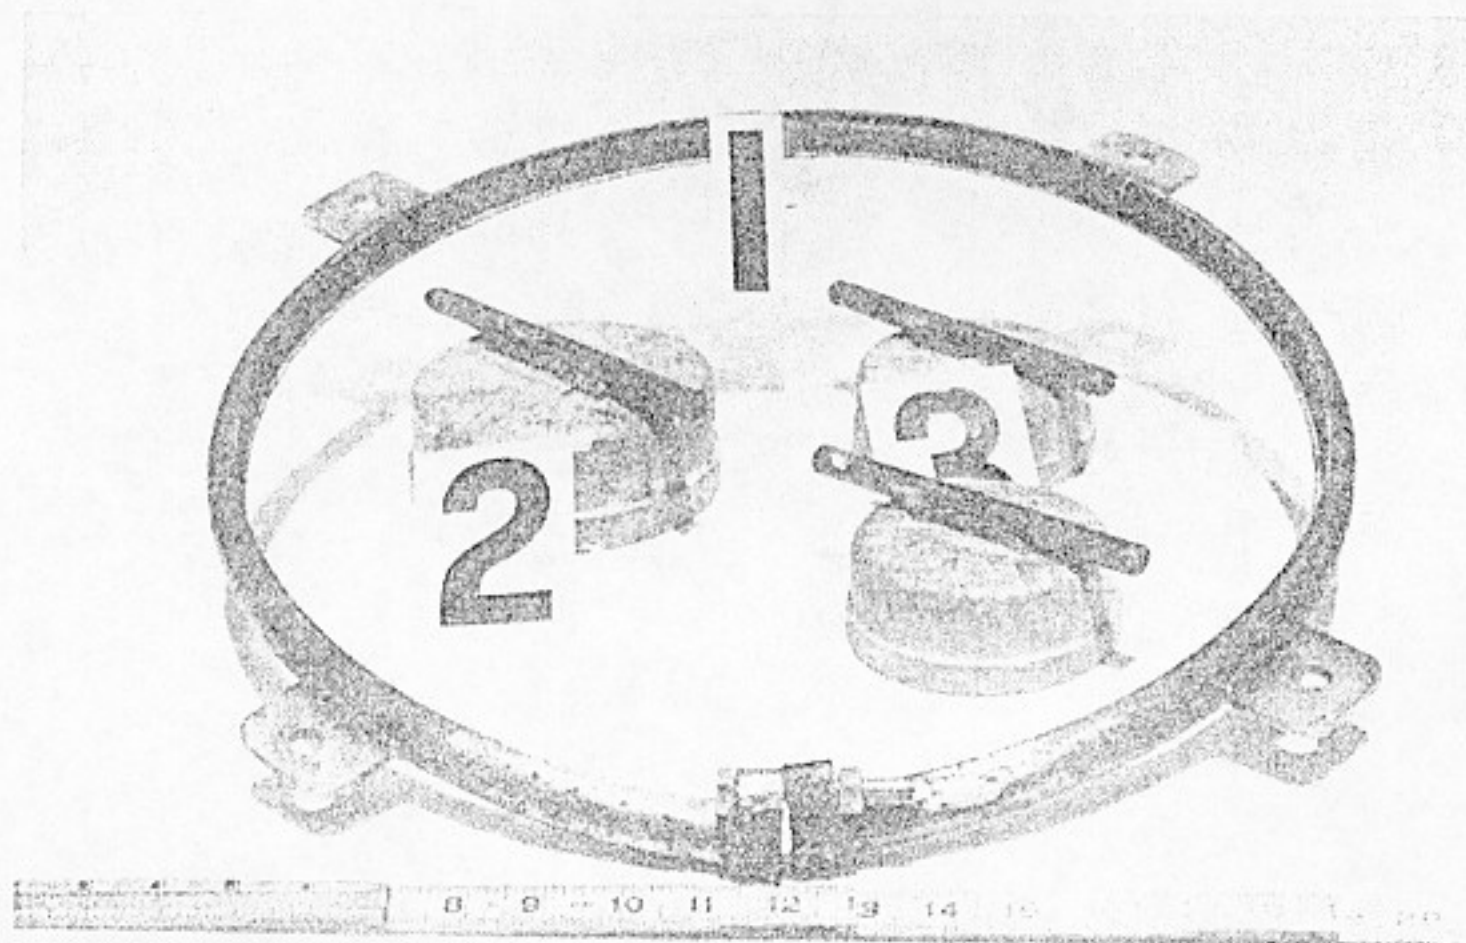

Fig. 2-14. Lock ring and welded tabs. Also pictured inside the lock ring (#1): the ash cleanout cover cap (#2), and the ignition cover cap (#3).
20. Cut four 2 by 2 by 1/4-in. tabs (Item 25A); then, braze these tabs to the lock ring (Item 24A), evenly spaced and in alignment with the support bars (Item 19A) on the fuel hopper. Drill a 3/8-in. hole in each tab to align with the holes in the fuel hopper support bars (Item 19A). The lock ring is shown in Fig. 2-14.